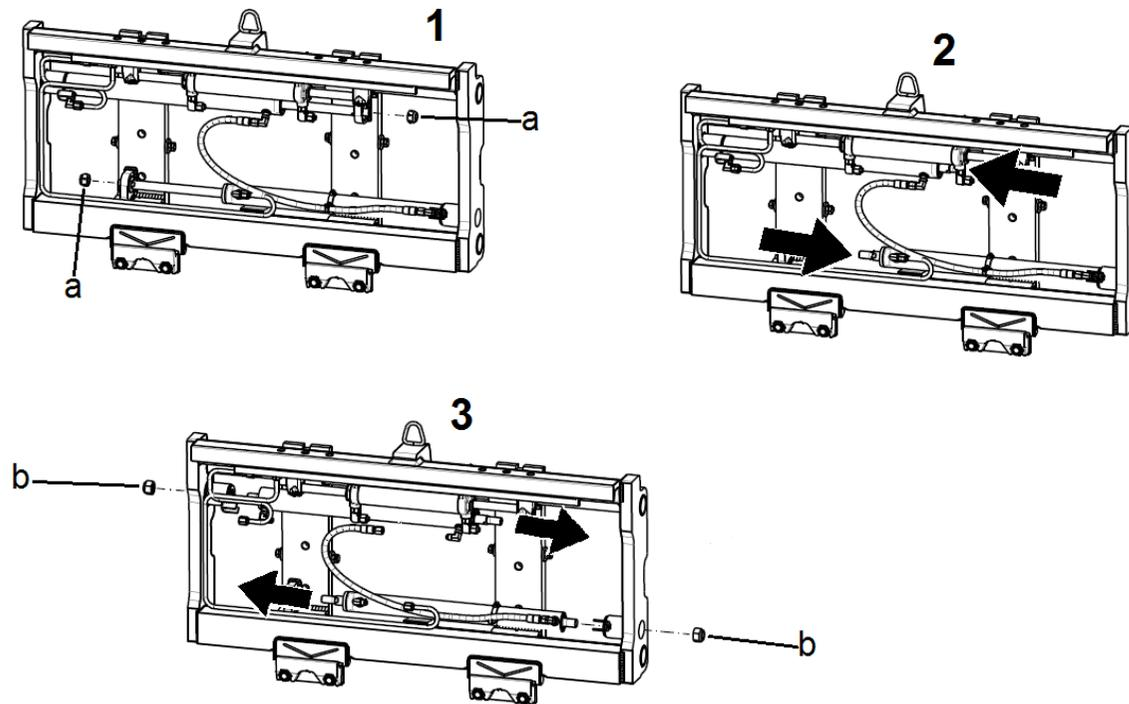

Fig. 040
7.5.3. **Remove the nuts from the cylinder rod "a", Fig. 040 (for the wrenches refer to 7.4.3.).**
7.5.7. **Remove the nuts from the bottom of the cylinders, "b", Fig. 040 (ISO 1174 30 mm socket wrench for loads up to 3.6 t, 41 mm for 5 t, 50 mm for class 4).**